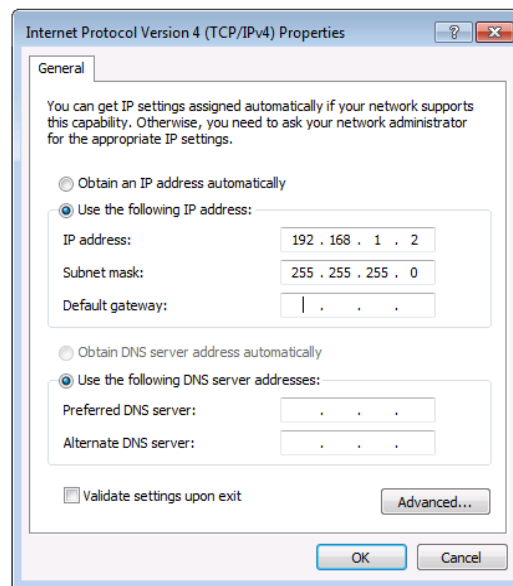

Figure 12: Internet Protocol Properties Window
6. Select **Use the following IP Address** for static IP addressing and enter the details as shown in Figure 12. For TCP/IPv4 you can use any IP address in the range 192.168.1.1 to 192.168.1.255 (excluding 192.168.1.39) that is provided by your IT department.